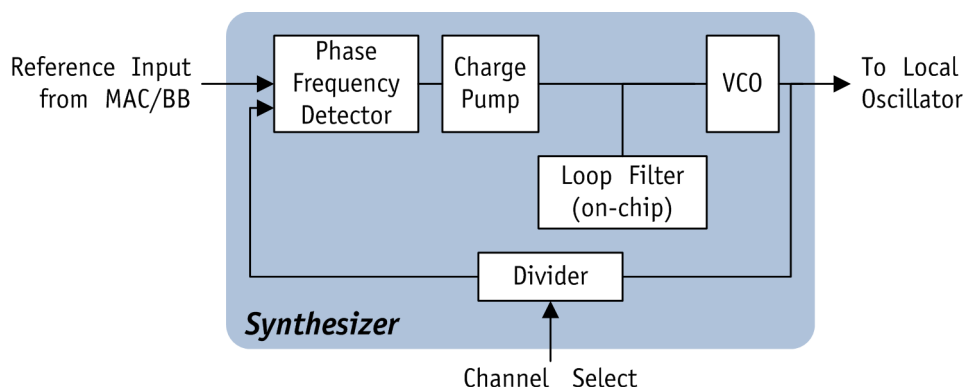

Figure 6-4 Radio Synthesizer Block Diagram
The radio supports an on-chip synthesizer to generate local oscillator (LO) frequencies for the receiver and transmitter mixers. The synthesizer has the topology shown in Figure 6-4. The QCA9531 generates the reference input from a 40 MHz crystal for the synthesizer. An on-chip voltage controlled oscillator (VCO) provides the desired LO signal based on a phase locked loop.